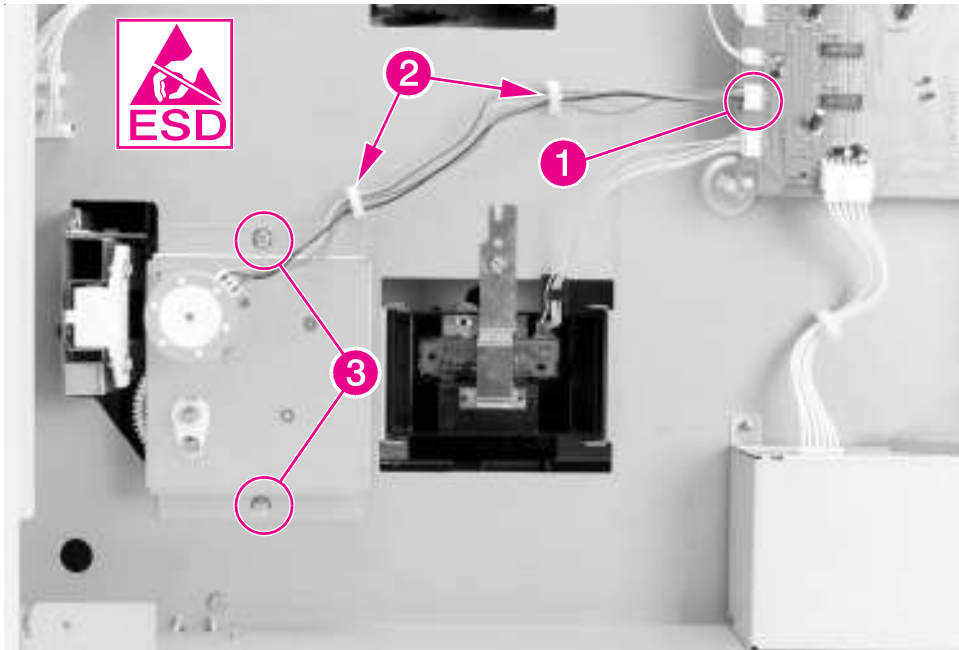

Figure 6-66 2000-sheet Input Tray Main Drive Assembly
- 2 Locate the cable that runs from the Main Drive Assembly on the 2000-sheet Input Tray to the unit's Controller PCA. Disconnect the cable from the J206 connector on the Controller PCA (figure 6-66, callout 1).
- 3 Release the cable from the 2 cable clips that hold the cable to the chassis (figure 6-66, callout 2).
- 4 Remove the 2 screws that connect the Main Drive Assembly to the chassis: 1 screw on top of the Main Drive Assembly and 1 screw on the bottom (figure 6-66, callout 3).
- 1 Reroute the cable through the cable clips (figure 6-66, callout 2) and reconnect the cable to the J206 connector on the Controller PCA (figure 6-66, callout 1).